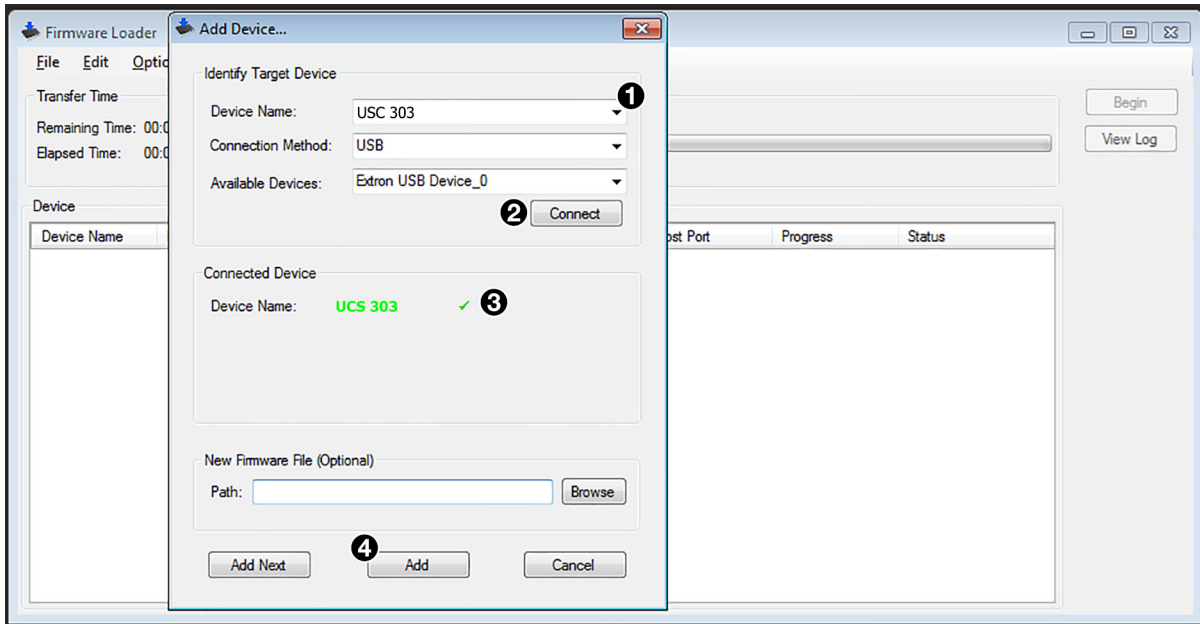

Figure 23. Successful Connection to the Switcher via Firmware Loader
2. From the Device Name drop-down list (see figure 23, ❶), select **UCS 303**.
3. Click **Connect** (❷). If the connection is successful, **UCS 303 ✓** is displayed in green in the Connected Device panel (❸).